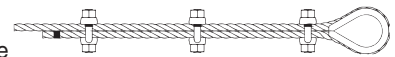

Figure 3
3. When three or more clips are required, space additional clips equally between first two – take up rope slack – use torque wrench to tighten nuts on each clip evenly, alternating from one nut to the other until reaching recommended torque. (See Figure 3)